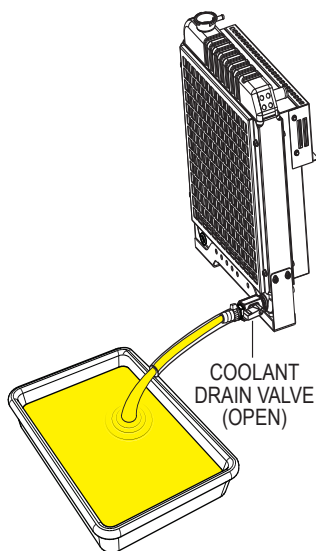

Figure 71. Draining The Engine Coolant
2. Open the cabinet door and place the **coolant drain valve** in the **OPEN** position (Figure 71) and allow the coolant to drain into a suitable container.